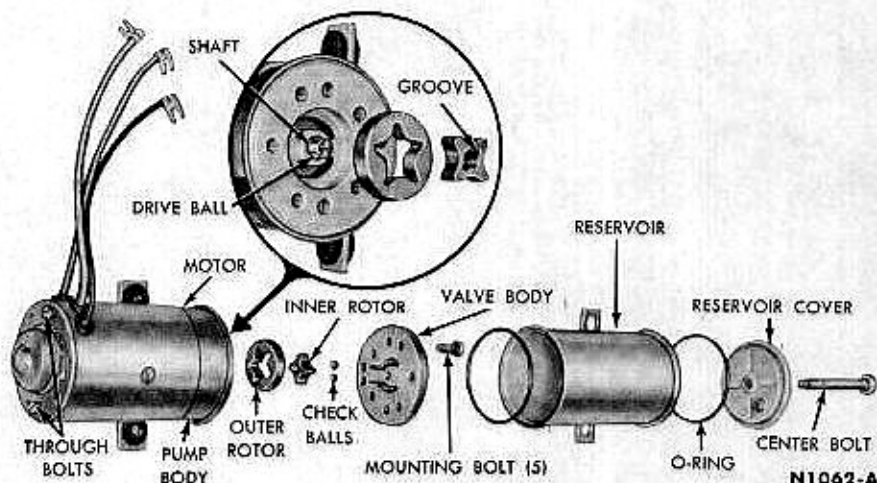

FIG. 2—Motor and Pump Disassembled
3. Remove the center bolt from the reservoir cover (Fig. 2).
7. Remove both rotors and the drive ball (Fig. 2).